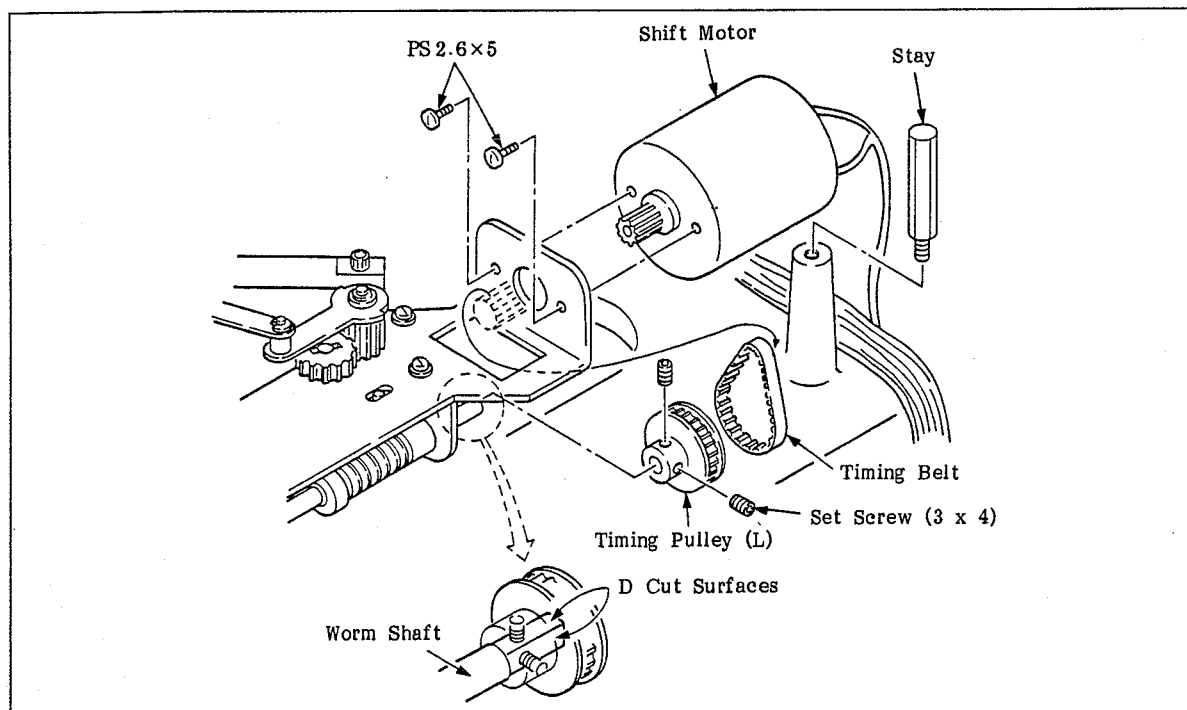

Fig. 6-39 Replacing the Timing Pulley
3. Remove the stay shown in Figure 6-39.